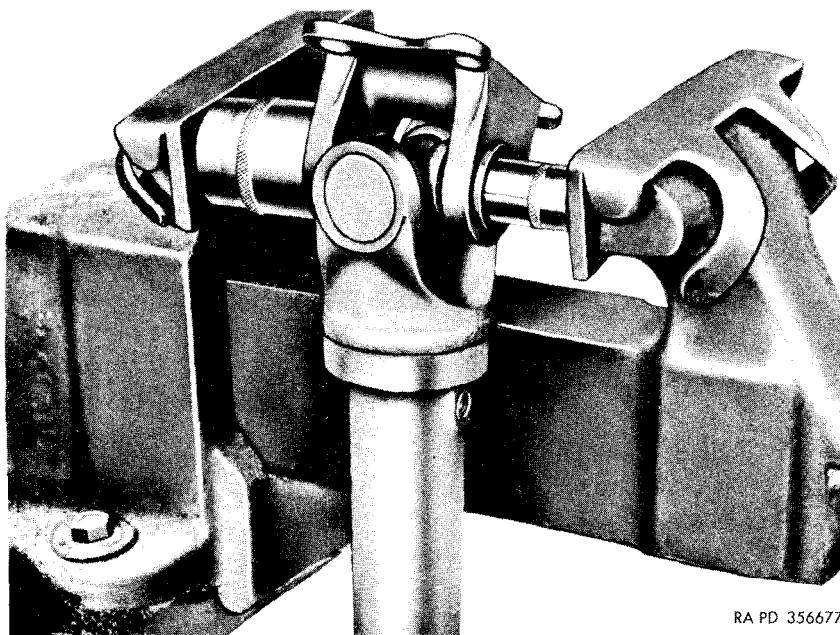

Figure 167. Removing bearings.
- (2) Press the four bearings from the universal joint in an arbor press, or remove them in the manner shown in figure 167. For this method, place the universal joint in a vise with a $1\frac{1}{4}$ -inch heavy-duty socket over one bearing and a $1\frac{1}{2}$ -inch socket against the opposite bearing. Tighten the vise to force the bearing from the yoke, being careful not to damage either oil seal retainer as the bearing is removed. Remove the other three bearings in the same manner. Separate the two yokes and remove the journal.
- (3) Remove the four bearing oil seals from each journal.